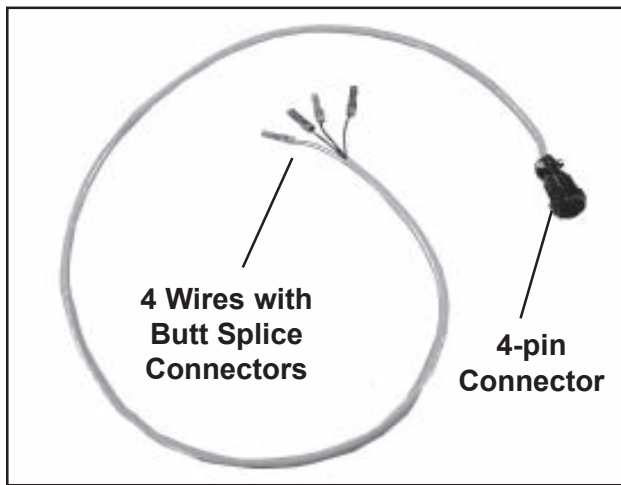
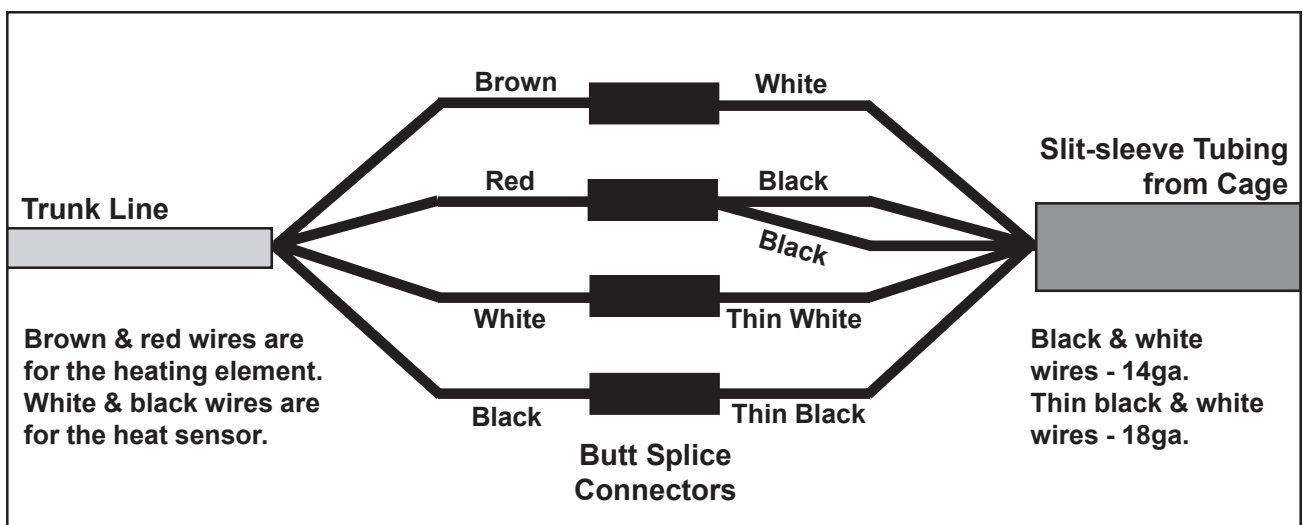

Figure 9. Typical Trunk Line (1 per Cage & Heat Controller)
Figure 10. Wiring Diagram - Trunk Line/Cage Wires Connections
12. A trunk line (Figure 9) connects each cage to its heat controller. Four butt splice connectors are pre-attached to the wires from the trunk line. Take one trunk line and connect it to the five (three black, two white) wires from Cage No. 1 according to Figure 10. To connect a wire:
CAUTION: Notice that one black and one white wire from the cage are thinner than the other wires. Study Figure 10 carefully and make sure you connect all wires correctly.